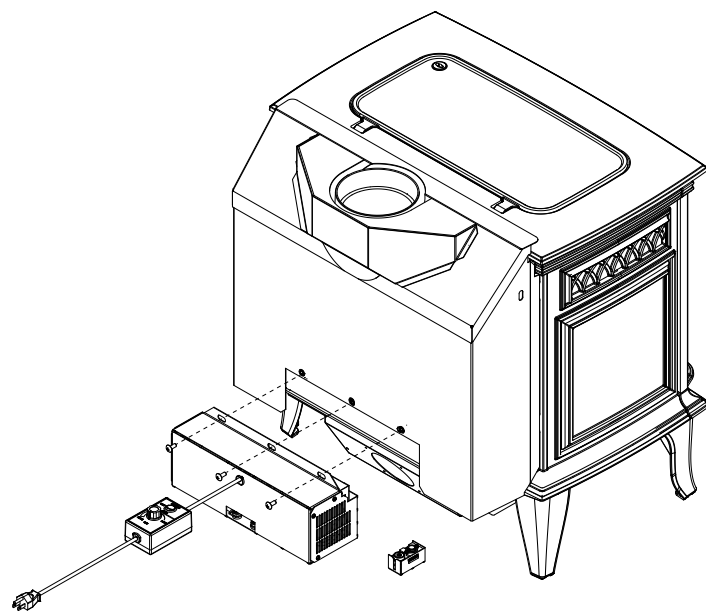

Figure 17.1
2. Align holes in mounting flange of blower with bolt holes in appliance. Blower should be positioned at bottom of rear outer skin as shown in **Figure 17.1**